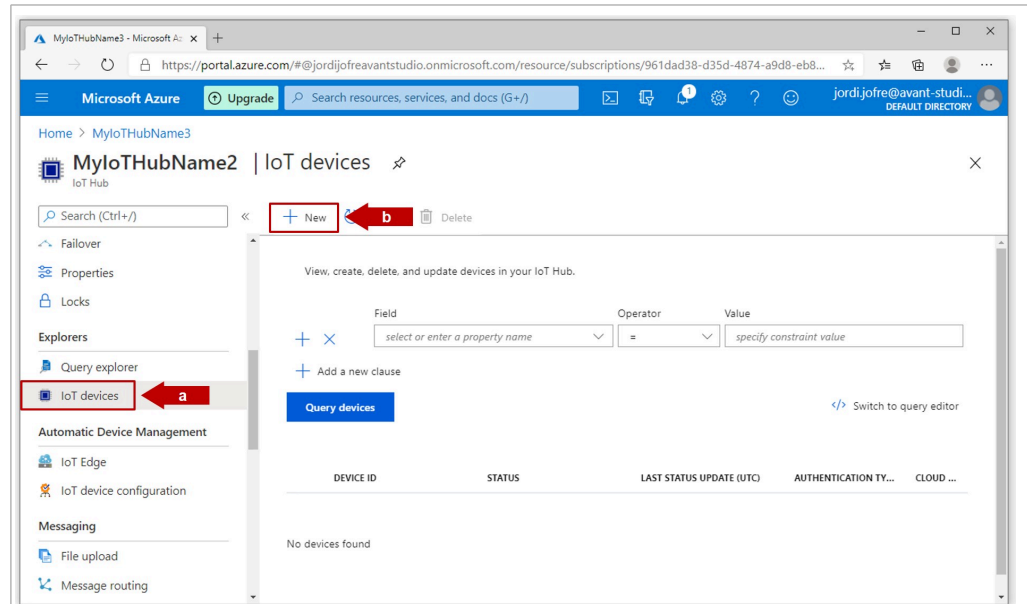

Figure 50. Create a device
1. In your Azure IoT Hub resource, do as shown in Figure 50: